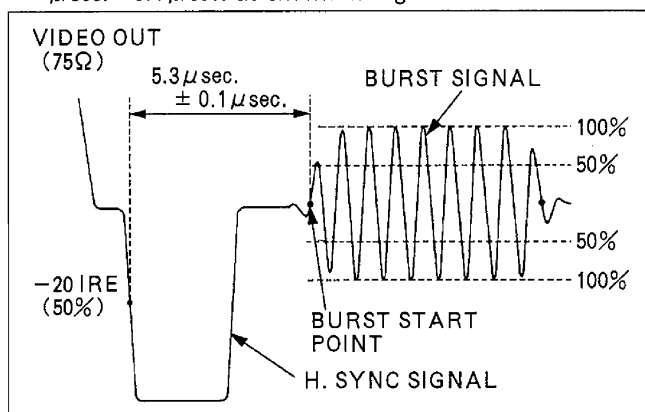

Figure E32
2. Adjust VR8805 so that the period of H. Sync (down edge) to Burst signal (Burst start point) becomes 5.3 μ sec. \pm 0.1 μ sec. as shown in Figure E32.